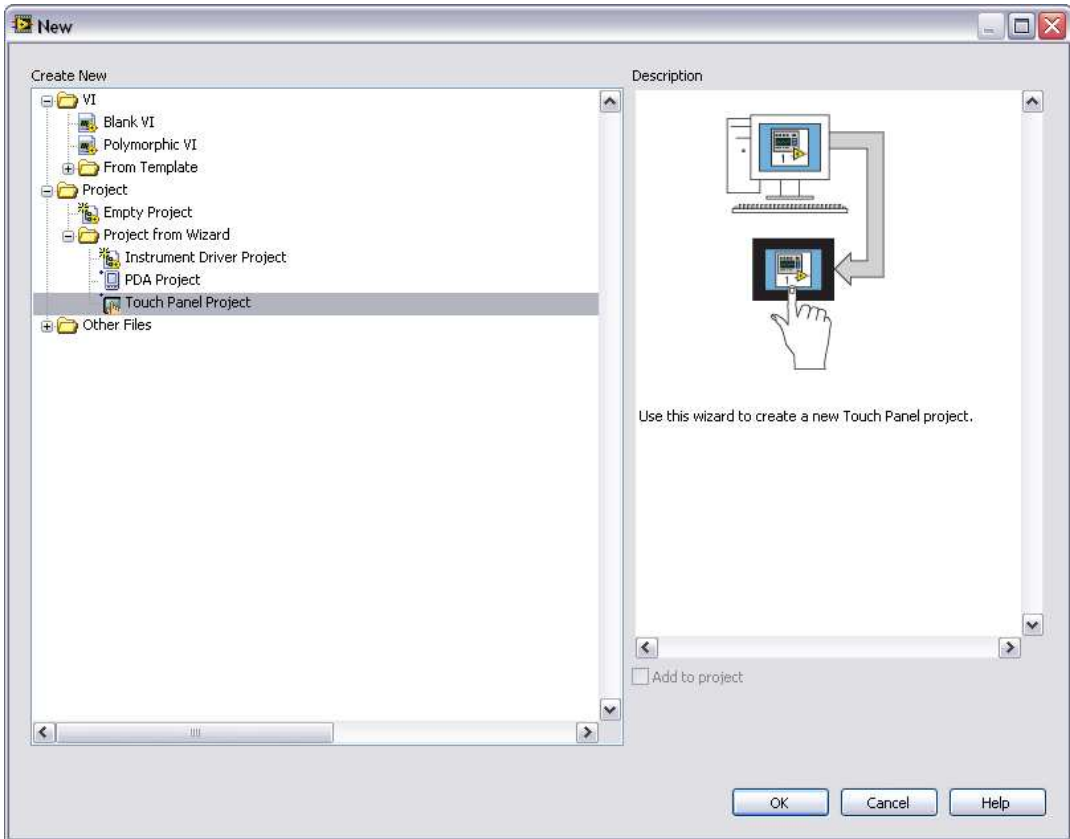

Figure 1. Launching the Touch Panel Project Wizard
2. Select **Project»Project from Wizard»Touch Panel Project** in the **Create New** list as shown in Figure 1.